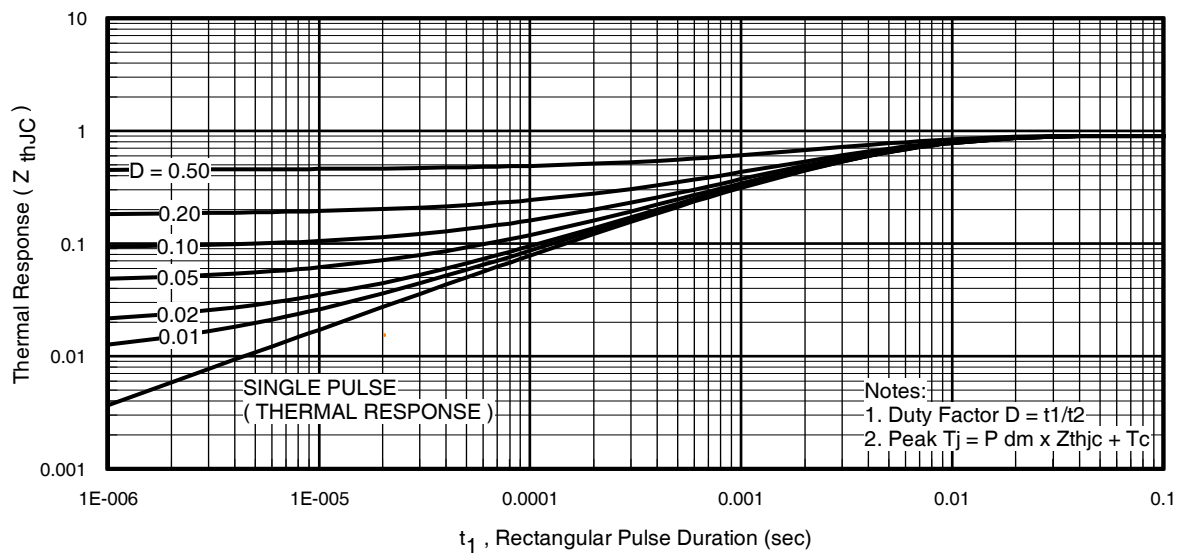

Fig 11. Maximum Effective Transient Thermal Impedance, Junction-to-Case
- ① Repetitive rating; pulse width limited by max. junction temperature. (See fig. 11).
- ② Limited by T_{Jmax} , starting $T_J = 25^\circ\text{C}$, $L = 0.12\text{mH}$, $R_G = 25\Omega$, $I_{AS} = 53A$, $V_{GS} = 10V$. Part not recommended for use above this value.
- ③ $I_{SD} \leq 53A$, $di/dt \leq 420A/\mu s$, $V_{DD} \leq V_{(BR)DSS}$, $T_J \leq 175^\circ\text{C}$.
- ④ Pulse width $\leq 1.0\text{ms}$; duty cycle $\leq 2\%$.
- ⑤ $C_{oss \text{ eff.}}$ is a fixed capacitance that gives the same charging time as C_{oss} while V_{DS} is rising from 0 to 80% V_{DSS} .
$Z_{thJC}(D, t_{av})$ = Transient thermal resistance, see figure 11)